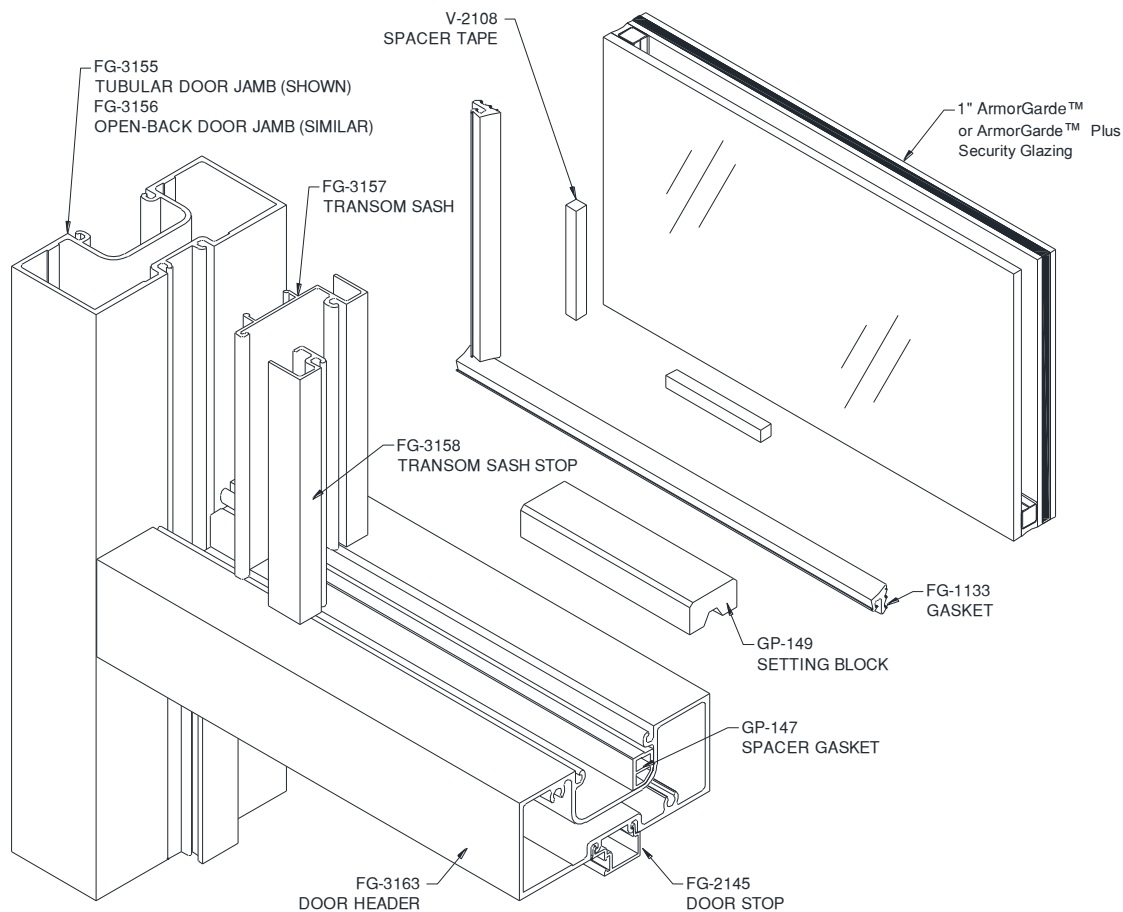

Figure 28: ArmorDefend™ Wet Glaze Assembly at FG-3163 Door Head
- 11.1.1.5 Install **GP-149** or **HP-17S** Setting Blocks at quarter points of each lite of glass or as specified by glass manufacturer. A full Wet Glaze assembly is shown in *Figure 28* and *Figure 29*.